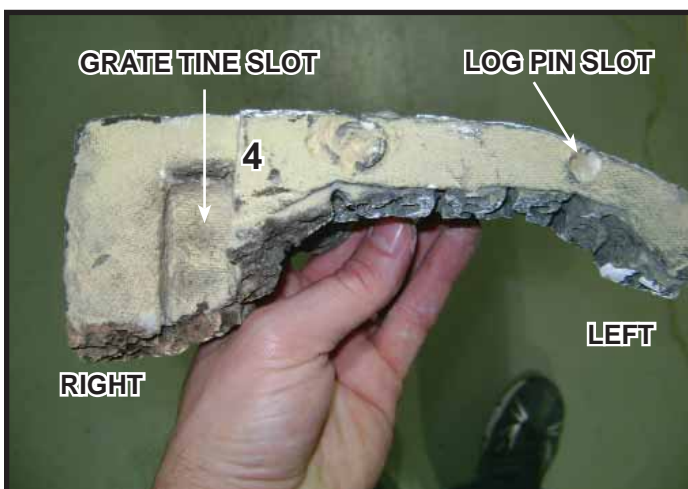

Figure 10. Log #4 - Bottom View
**Log #4 (SRV2221-706):** Position Log #4 as shown in Figure 9. See Figure 2 and Figure 10 for additional references. Mate the grate tine slot with the base of the right grate tine. The grate tine slot is located on the bottom right end of Log #4. See Figure 10. Slide the right end of the log forward until the tine fully engages the slot. Mate the log pin slot with the right log pin.